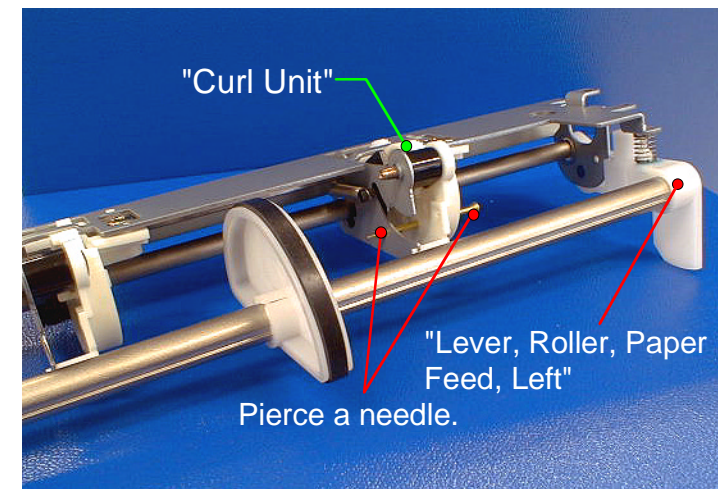

Figure 4-172. Inserting A Needle for Adjusting Alignment
40. Pierce a needle(diameter 2.0mm) into the "Curl Unit", which is the nearest to "Lever, Roller, Paper Feed, Left" side. (See figure4-172)